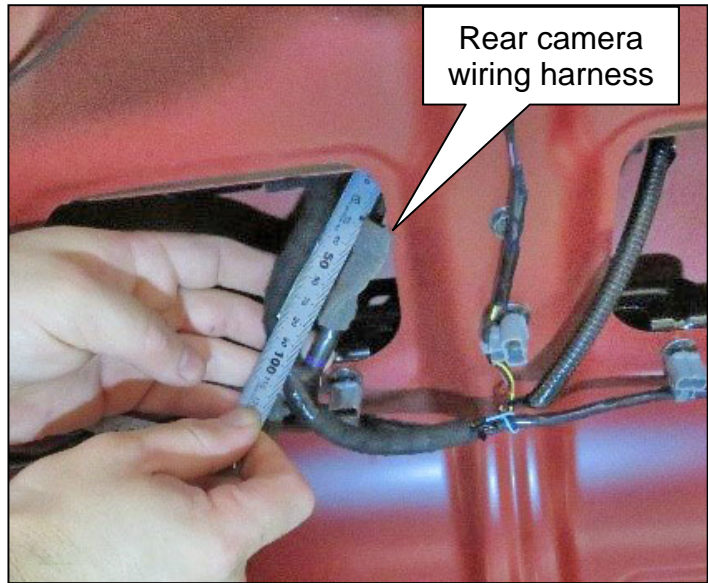
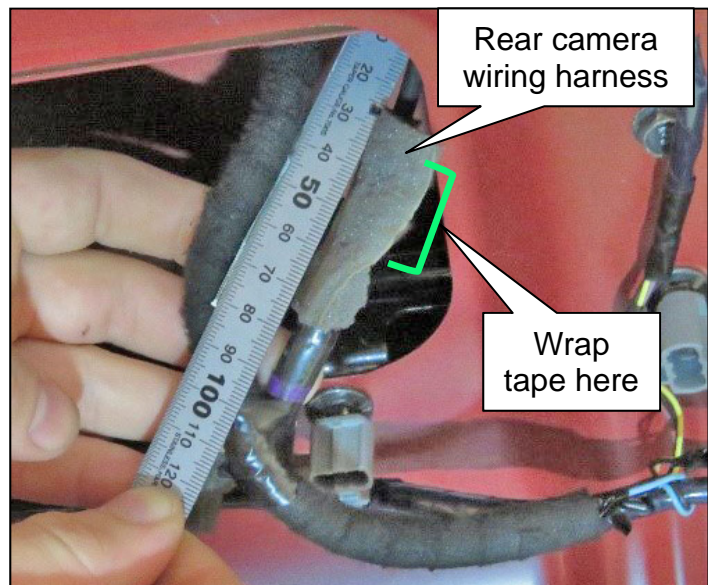

Figure 8
Figure 9
9. Measure 35 mm down from where the rear camera wiring harness connects to the rear camera, as shown in Figure 8 and Figure 9.